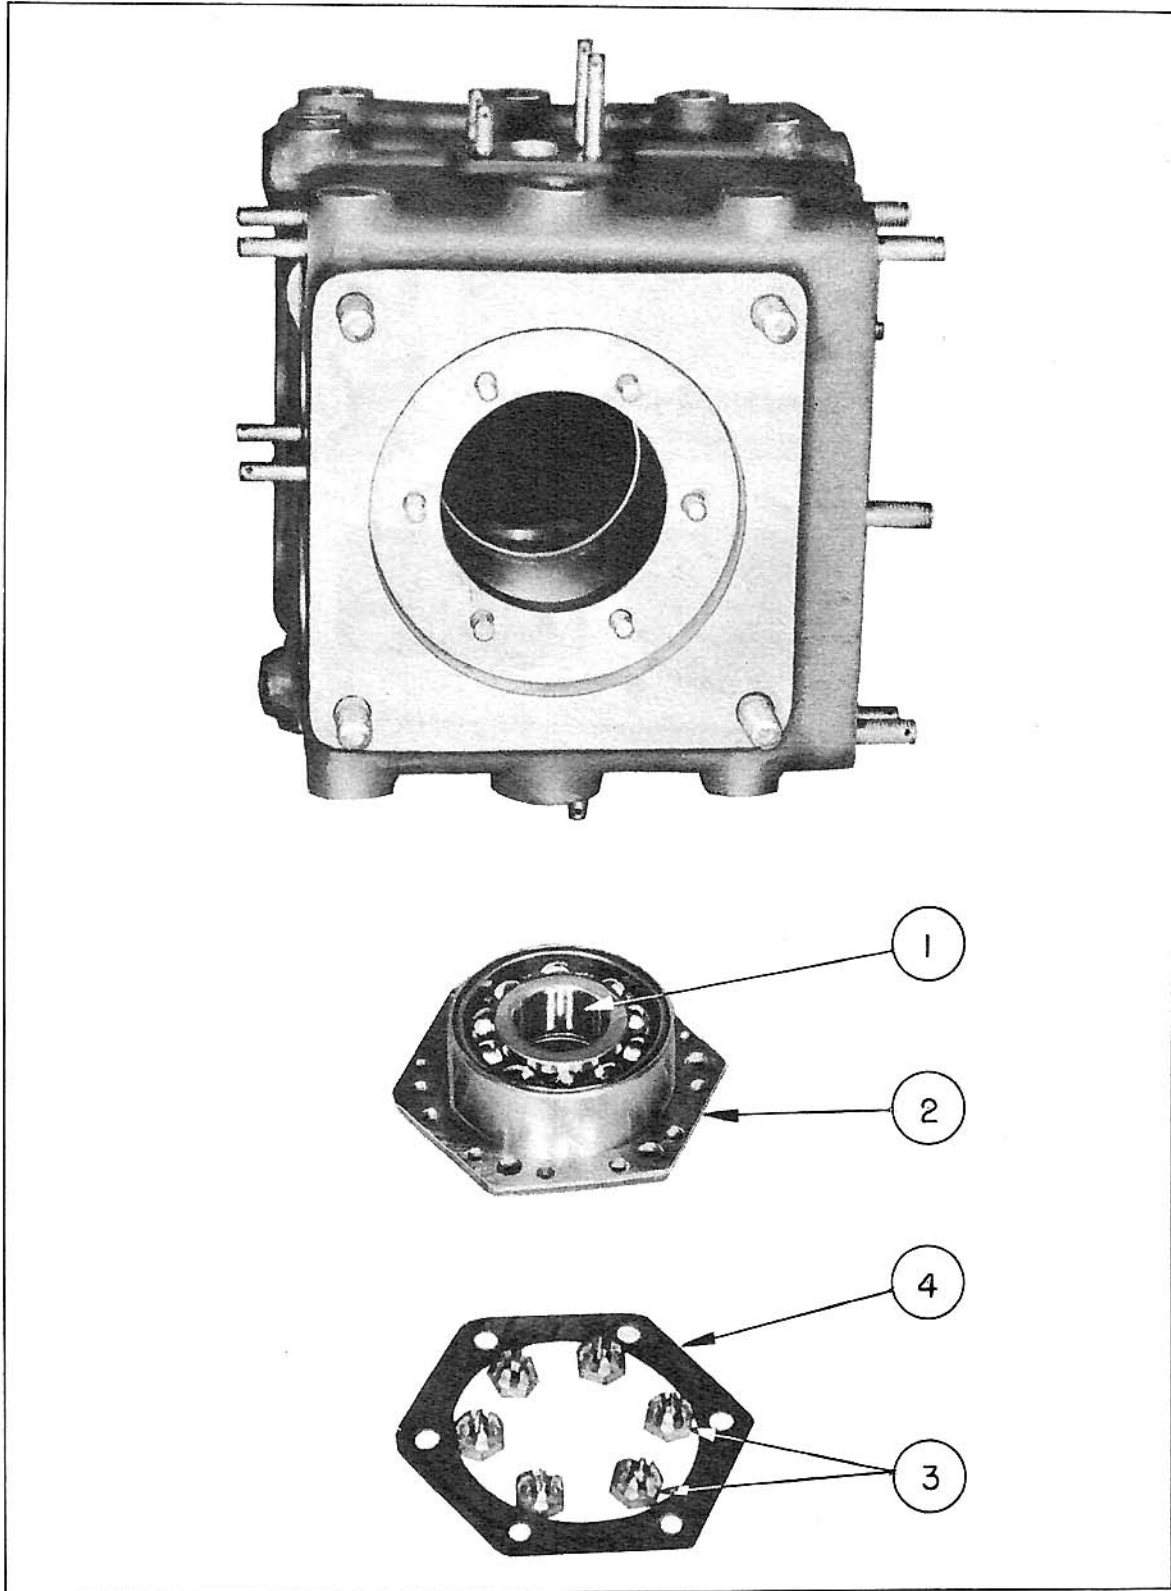
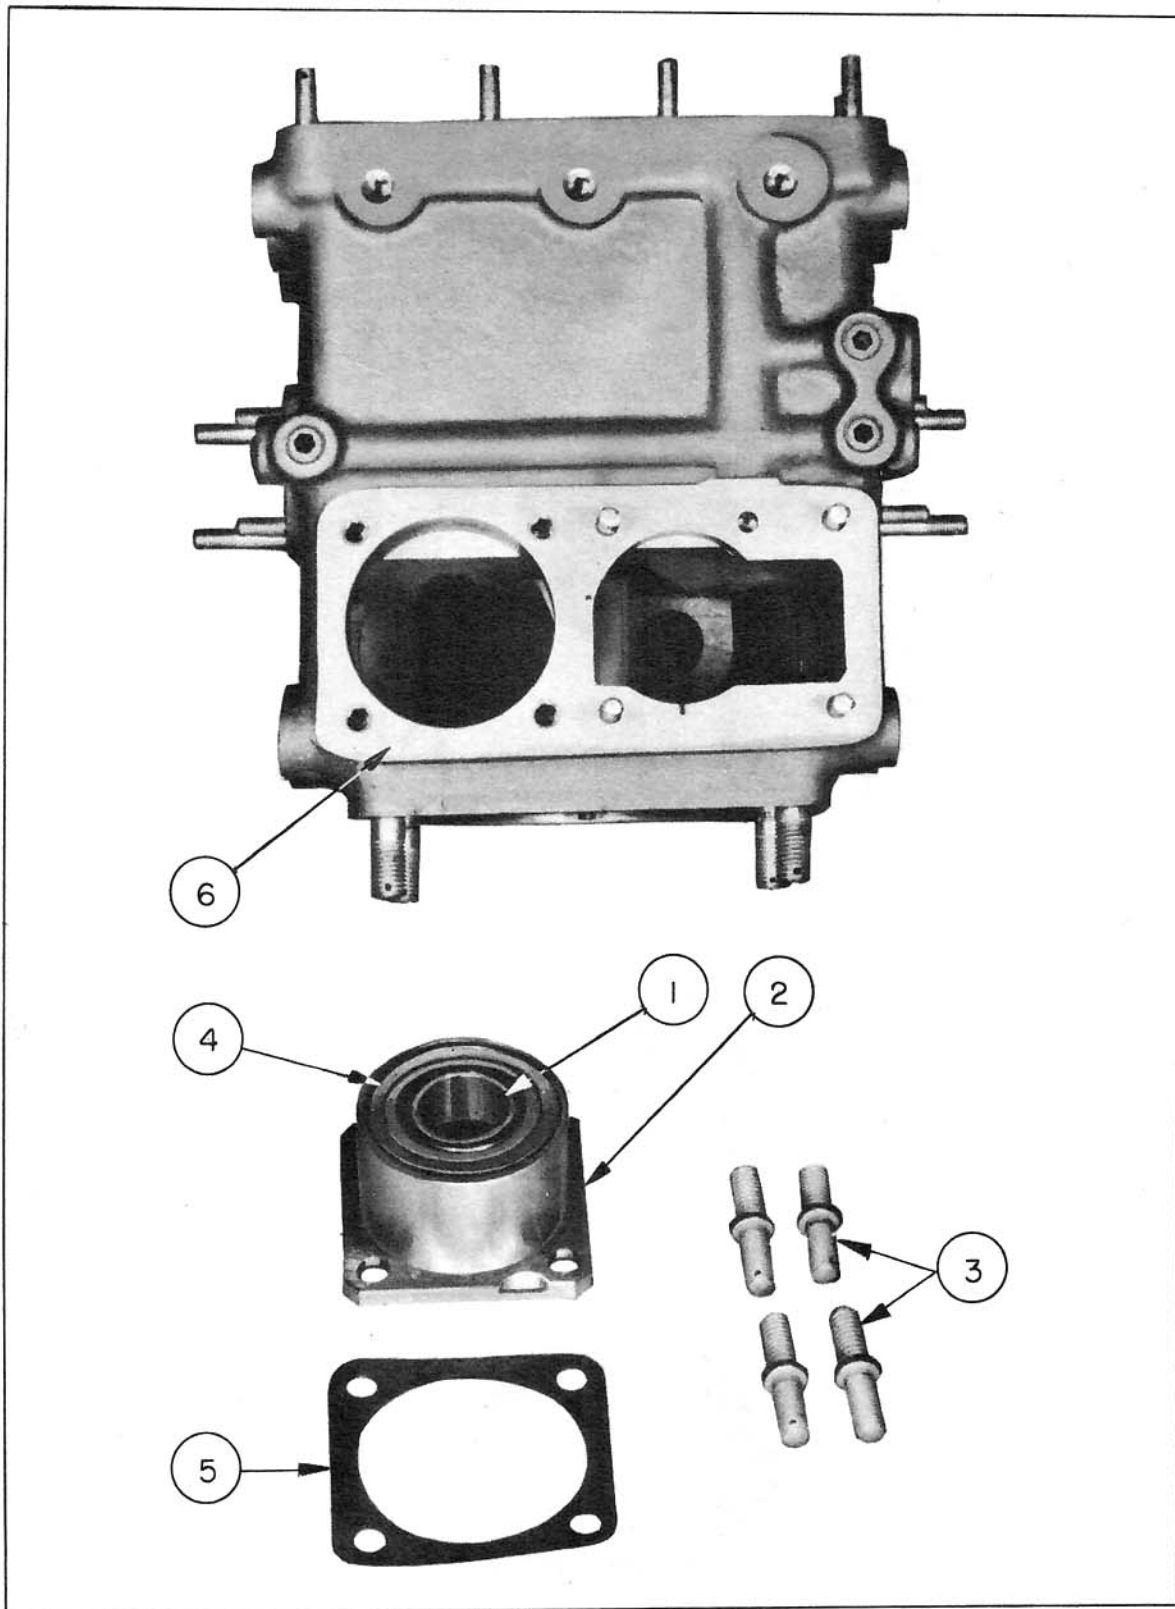

FIGURE 32
FIGURE 33
12. Bearings and Retainer (Fig. 32 and 33)
13. Bearings and Retainers (See Figure 32.) - a. Remove the "A" end bearing (1) and retainer (2) by removing the nuts (3); then screw in on opposite sides of the
b. (See Figure 33.) In order to remove the "B" end bearing ① and retainer ② it is necessary to remove the 4 studs ③. Then insert a screw driver alternately in the two slots provided on the retainer, and gradually pry the retainer out. On some of the first units the slots were not provided, and on these units it will be necessary to drive the retainer around so that one edge projects beyond the housing; it can then be driven out with a small hammer, using light blows to avoid injury to the part. The variable speed transmission unit is now completely disassembled into its sub-assemblies and parts. It is strongly recommended that no further disassembly be made.
1. Bearings and Retainers (Fig. 32 and 33)
2. Bearings and Retainers (See Figure 33.) - a. Before placing the "B" end bearing (1) and the retainer (2) in place, be sure that the oil seal (4) is in place and in good condition. Place the gasket (5) in place between the housing (6) and the bearing retainer as it is forced into the housing. The slots in the retainer should be "up" and "down" (not facing the "control" pump opening). Replace the 4 studs (3) and screw down evenly and tightly. (See Figure 32.) The "A" end bearing (1) and retainer (2) are similarly forced into place after positioning the gasket (4) between the retainer and housing. Put on the six nuts (3) and safety wire them.